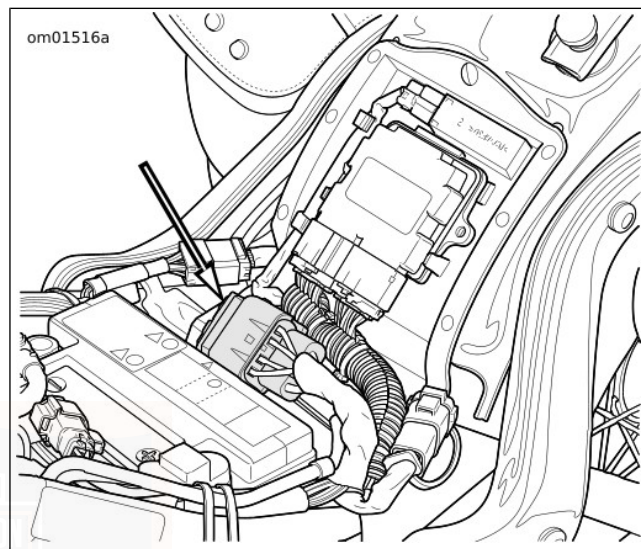

Figure 54. Fuse Block Location
3. See Figure 54. Pull cover off fuse block.